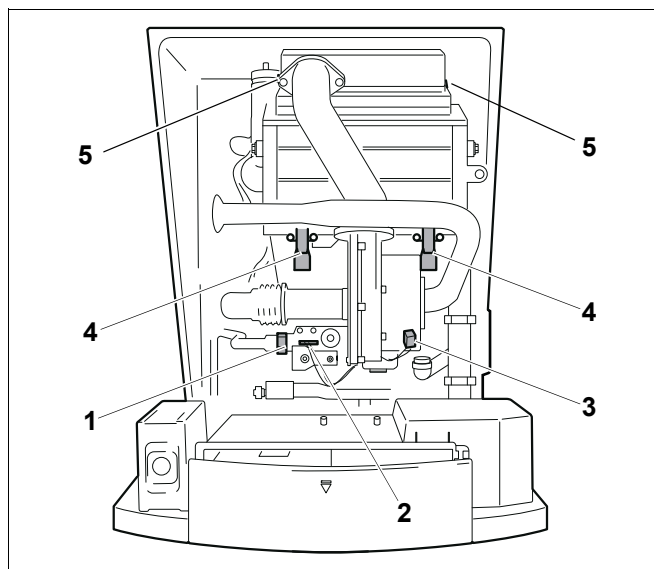
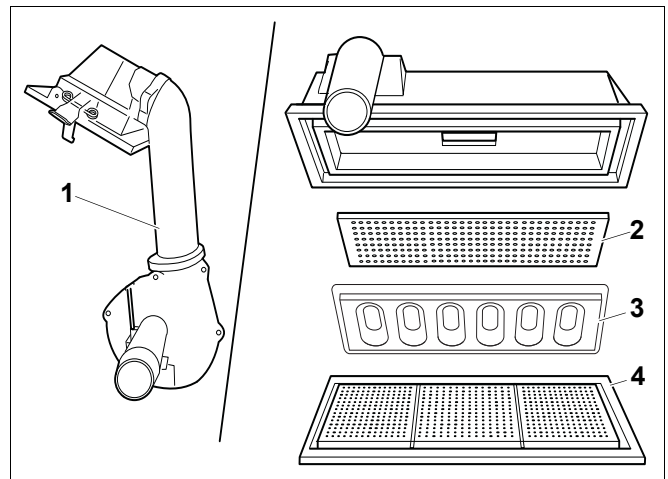

Fig. 44 Removing the connections
Fig. 45 Cleaning the burner cover, gas/air distributor plate, orifice plate and burner
- Loosen the threaded connection to the gas control valve (fig. 44, pos. 1) and pull the plug (fig. 44, pos. 2) from the gas valve terminal block.
- Pull the plug from the fan unit (fig. 44, pos. 3).
- Loosen both sets of retaining clips (fig. 44, pos. 4 and 5) of the burner cover and remove the burner cover with the fan unit and the gas burner fitting (fig. 45, pos. 1).
- Remove the gas/air distributor plate (fig. 45, pos. 2), the orifice plate (GB142-24, GB142-30 and GB142-60 only, fig. 45, pos. 3) and the burner (fig. 45, pos. 4). Note that the orifice plate of the GB142-60 has a different shape.